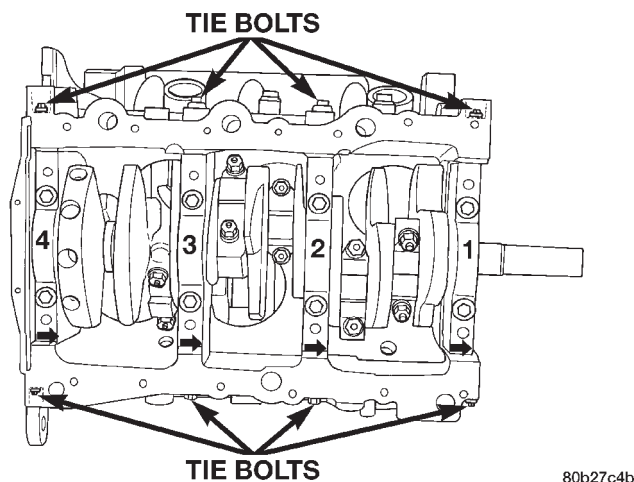

Fig. 44 Main Bearing Cap Identification
(15) Remove main bearing caps. Main bearing caps are not interchangeable and are marked to insure correct assembly (Fig. 44).
(16) Remove Crankshaft.